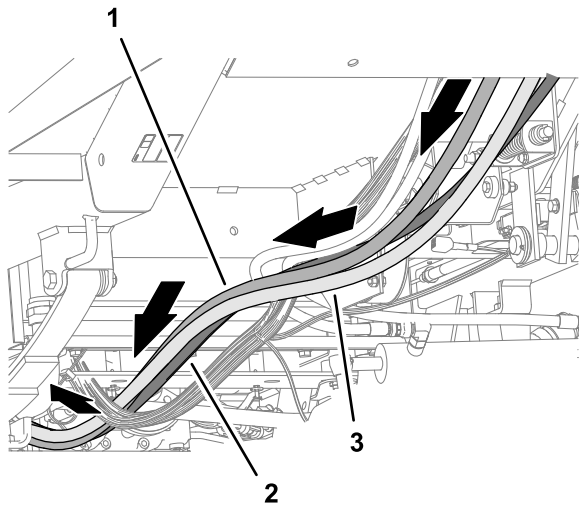

**Figure 124**
5. Route the end of the hydraulic-pump hose 10 x 2921 mm (3/8 x 115 inches) with the 45° fitting through the grommet in the floor plate (Figure 124).
6. Assemble the 90° fitting of the hydraulic-pump hose 10 x 2921 mm (3/8 x 115 inches) onto the port PT fitting of the EHI steering valve, and tighten the hose fitting (Figure 124).